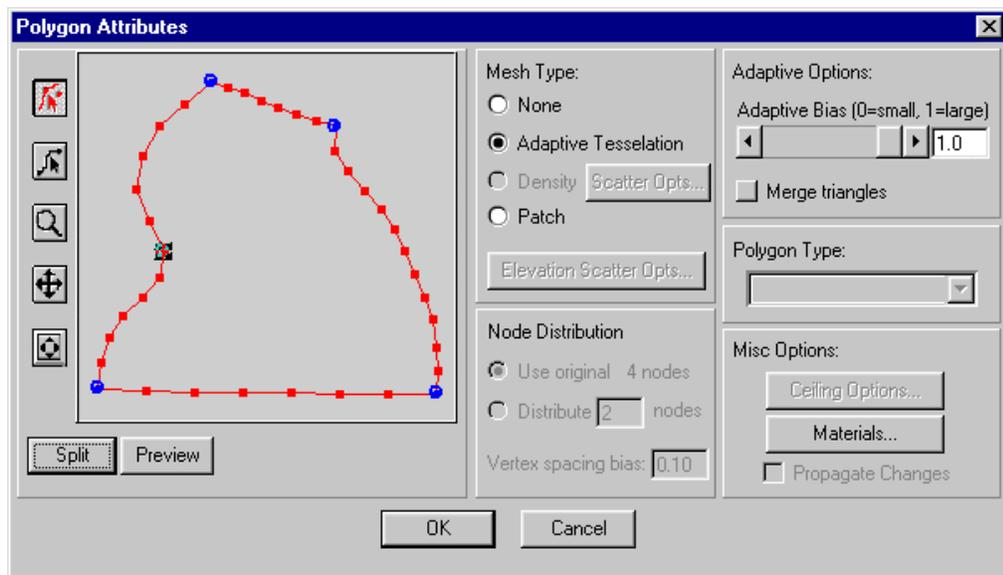

Figure 2-10 The *Feature Polygon Attributes* dialog.
3. Click on the node at the center of the left side, as seen in Figure 2-10.